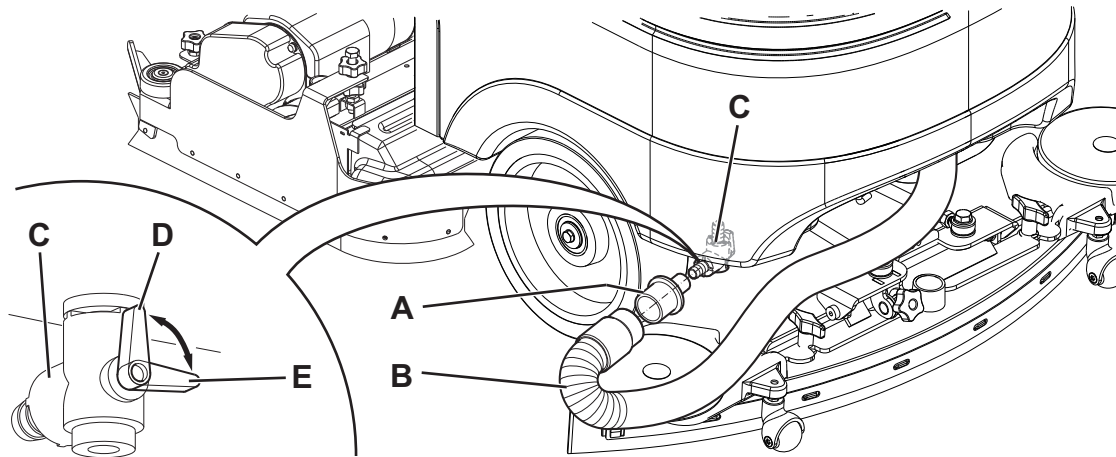

Figure 5
The display (C) shows the detergent concentration level in the solution as shown in the table in Figure 5.
8. Remove the adapter (45) from its housing inside the battery compartment.
9. Install the adapter (A, Fig. 5) on the squeegee vacuum hose (B), then fasten it to the drain tap (C).
10. Turn the ignition key (58) to "I" and turn on the vacuum system with the switch (63).
11. Open the drain tap (C) to drain the tank (22).